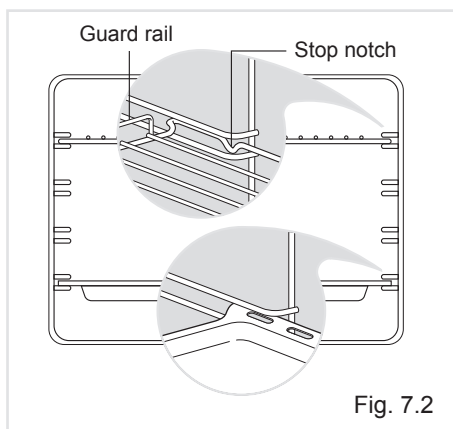

Fig. 7.2
- Slide into the guides, the shelf and the tray (fig. 7.2).